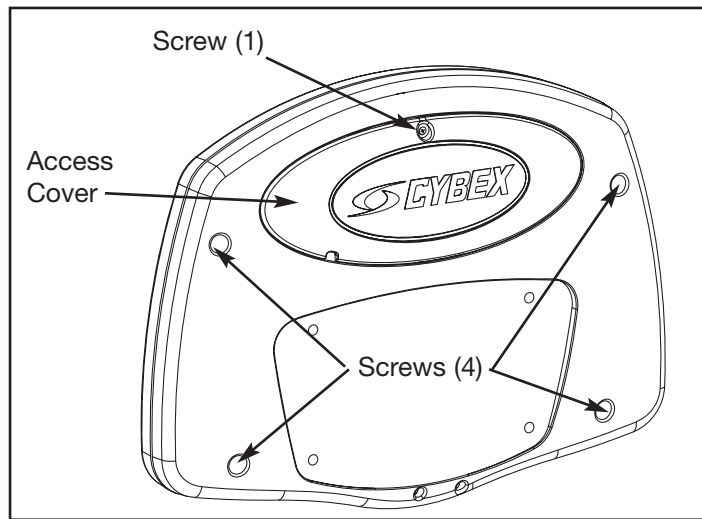

Figure 27
- A. Using a Phillips head screwdriver, remove the screw securing the access cover to the console back. See Figure 27.
- B. Using a Phillips head screwdriver, remove the four screws securing the console front to the console back. See Figure 27.